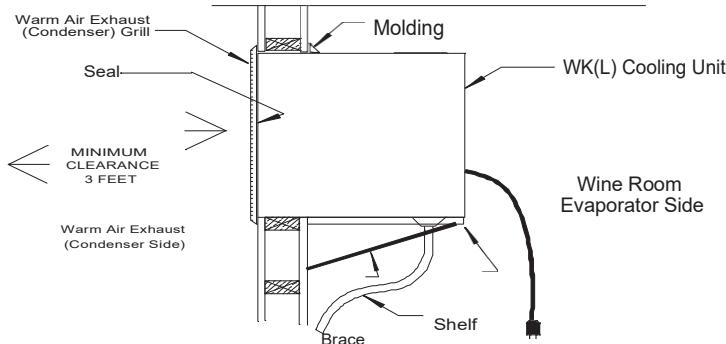
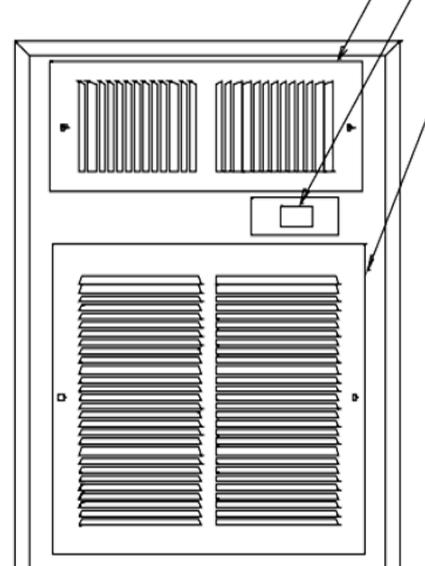

Figure 3
Figure 1
- ☞ This is a mechanical piece of equipment; it will make noise and produce heat on the warm side exterior condenser grille (Fig. 3). Remember, unit installation location is not only important inside the wine cellar, but just as important is where the warm side exhaust air is being rejected.
Before installing the unit, inspect it again for any shipping damage. Test the unit by placing it in a room where the temperature is above 65°F. Position the unit to allow cold air to flow from evaporator outlet. (See Fig. 1) Plug the unit's electrical cord into a properly grounded electrical outlet of adequate capacity (see unit specification for unit electrical requirements).
The Sentry III has no "off" position; therefore, it will begin to run within 5 minutes of being plugged in. Allow it to run for a minimum of 15 minutes. There should be a flow of cool air from the evaporator side upper grille (see Fig. 1) and warm air should be flowing from the upper opening on the warm air exhaust (condenser) grille (see Fig. 3). If there is no airflow or no change in temperature on either side, contact your dealer.
Make sure that the warm air exhaust condenser grille can be properly attached to the unit (see Fig. 3).
If the unit is to be installed above floor level, construct a shelf as shown in Fig. 3. This shelf must be capable of supporting the weight indicated in the specifications. NOTE: Insulation placed between the unit and the shelf will reduce additional noise and help reduce condensate from forming on the underside of the unit.
Place the unit through the opening with the warm air exhaust side, flush to the outside of the wall (see Fig. 3). Attach the warm air exhaust condenser grille to the unit and to the wall with screws supplied with grille. Note: the unit may be installed with the cold side flush to the inside wall, however, two provisions must be made. First, insure the warm air exhaust grille will be installed. Second, insulate and vapor barrier the framed opening to prevent moisture in the wall from condensing on the cold surface of the cooling unit. Please remember that in all cases the warm air exhaust condenser grille must be directly attached to the warm side of the unit. Do not leave an air gap between the unit's surface and the warm air exhaust condenser grille. **The unit will not work properly without this grille.** The exhaust condenser grille has only a white primer coat. If the exhaust condenser grille is installed on an outside wall it should be coated with an appropriate paint.
**BREEZAIRe** is extremely proud of the quality and reliability of its products. Experience has shown that of the small number of problems encountered, the large majority are due to improper unit selection or enclosure construction. Should the cooling system be suspected of malfunctioning, check the temperature of the air being exhausted from the upper part of the warm air exhaust condenser grille. If it is warm, the unit is working. A further check may be made by comparing the air temperature entering the lower grille on the cold side (Evaporator side) with that leaving the upper cold side grille. (see Fig. 1) If the air leaving the unit is 6°F or more degrees colder than the temperature entering, the unit is working properly. In some cases, improper placement or installation may cause the unit's performance to be compromised. In situations where the ambient relative humidity is very low, the desired enclosure relative humidity may not be achieved without adding moisture. To add moisture to the enclosure only use slow, natural evaporation from a small porous water container. Do not use a humidifier.
Improper placement or installation may cause the unit's performance to be degraded. If the unit is exhausted into a confined area with poor ventilation or duct work, it will not be able to reject the heat and moisture it is removing from the enclosure and a malfunctioning unit will be suspected. If an obstruction to the flow of fresh air into or from the cooling unit (see Fig. 3) is stopped or restricted for any reason the unit could heat rather than cool the enclosure.